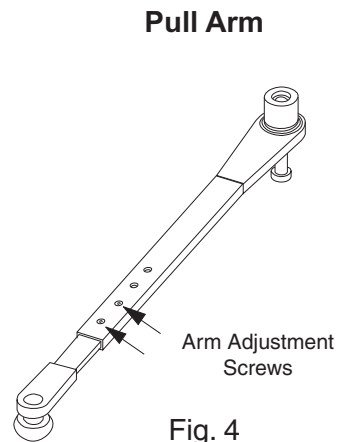

Fig. 4
4.5.3 Attach arm if required. Due to the mesh of the arm to operator spindle, the door may be open to slightly more or less than 90°. To adjust arm, remove arm adjustment screws, push door open to 90° and reinstall arm screws (see fig. 4).